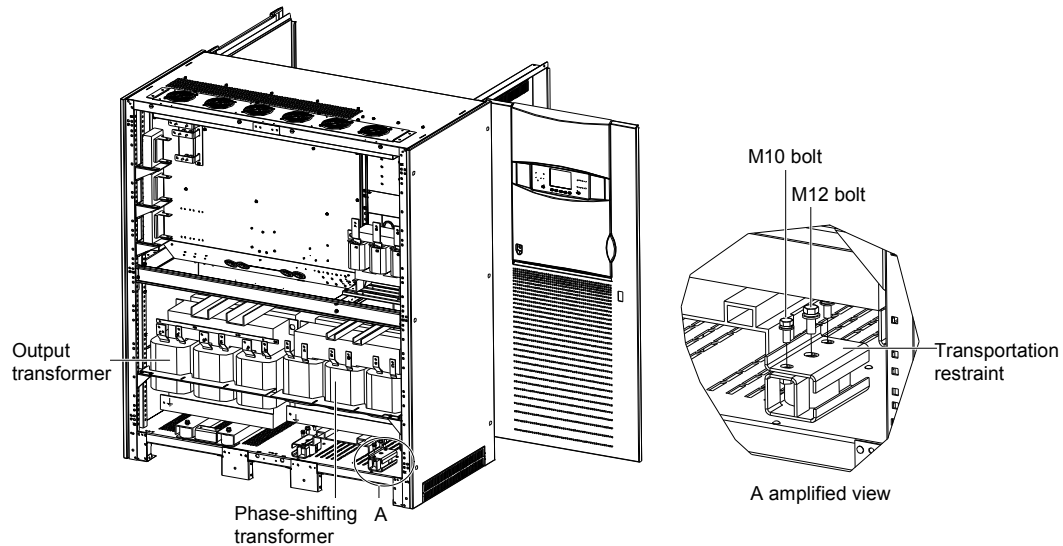

Figure 3 Removing the transformer transportation restraints
1. Repeat the preceding steps 1 through 4 to remove the transportation restraints of the output transformer (see Figure 3).
There are two transportation restraints respectively in the front and at the back, totally four, at the bottom of the phase-shifting transformer. Remove the two M10 bolts at both sides and one M12 bolt in the middle of each transportation restraint, as shown in Figure 3. Remove the four transportation restraints, and then reinstall the four M12 bolts in their original positions.